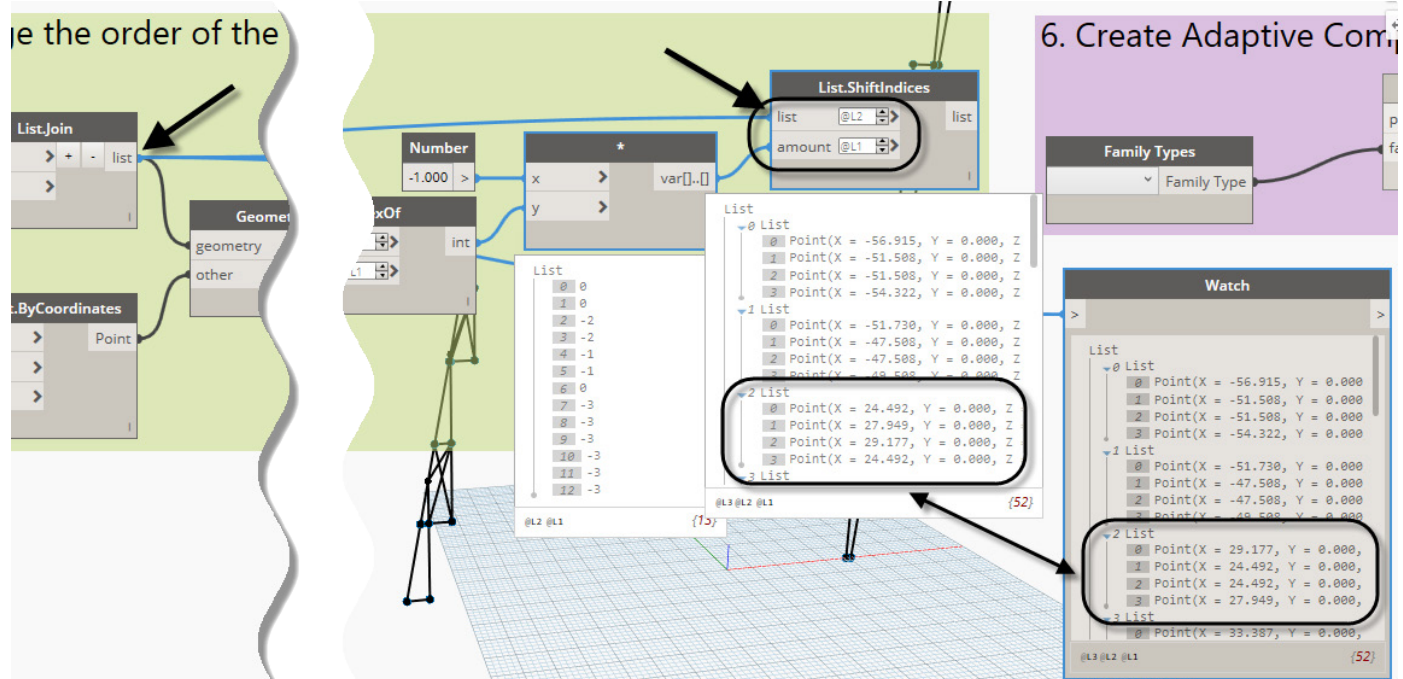

FIGURE 107
66. Turn on list at level for both **list** and **amount**. Set **list** to **@L2** and **amount** to **@L1** and then run the graph (see Figure 107).